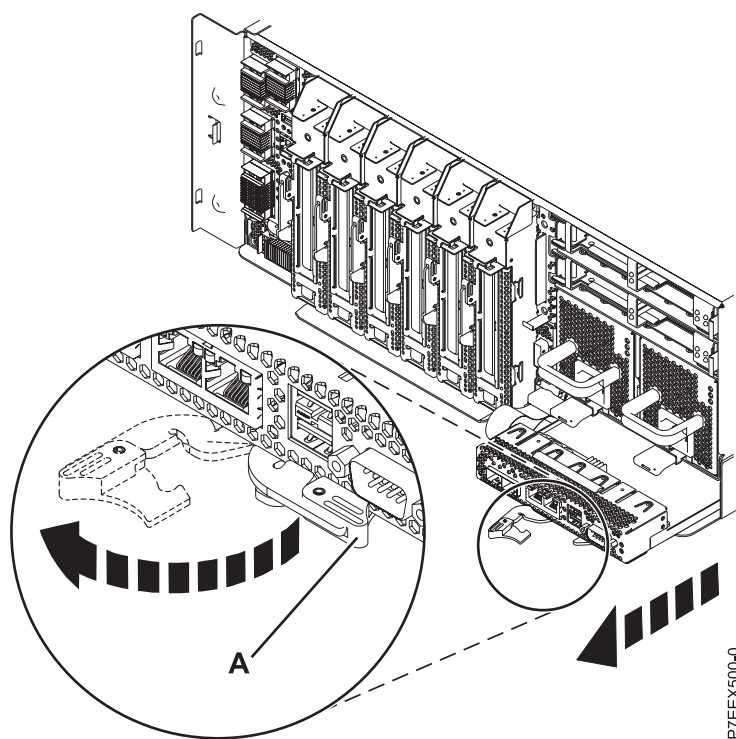

Figure 1. Removing an integrated multifunction card for the 8412-EAD, 9117-MMC, 9117-MMD, 9179-MHC, or 9179-MHD
5. Locate the integrated multifunction card that you want to remove as shown in Figure 1 on page 4.